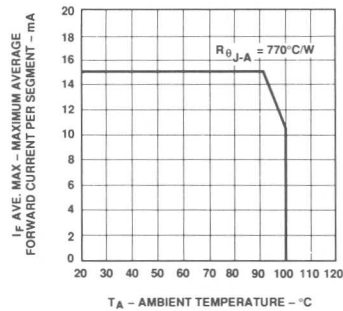

Figure 6. Maximum Allowable Average or DC Current vs. Ambient Temperature.
8. Derate above 91°C at 0.53 mA/°C (see Figure 6).